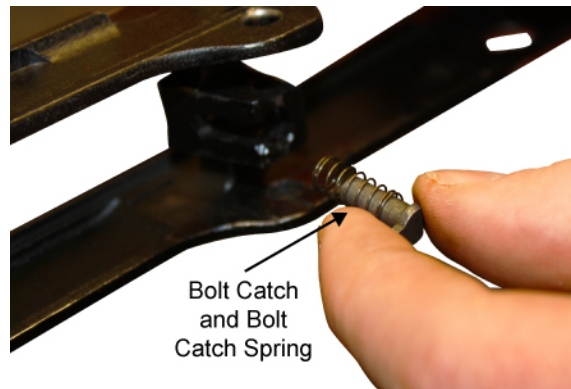

Figure 22. Install the Bolt Catch and Bolt Catch Spring.
5. Install the bolt catch and bolt catch spring in the receiver. Ensure the tab on the bolt catch faces forward. Refer to Figure 22.